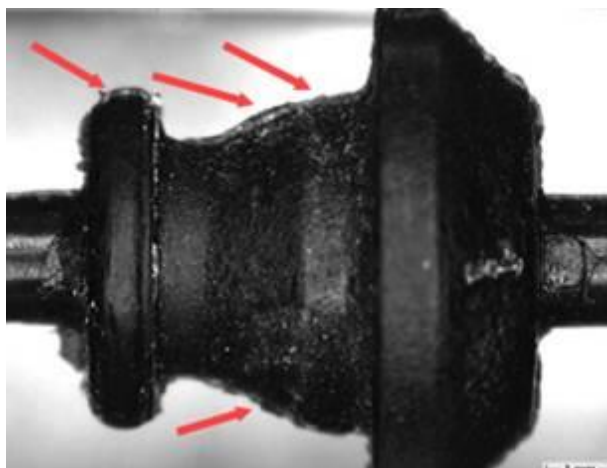

Figure 3. Burrs that need to be removed.
3. In Figures 3 and 4, you can see the burrs that need to be removed from the retainer. They can be removed with a razor knife.